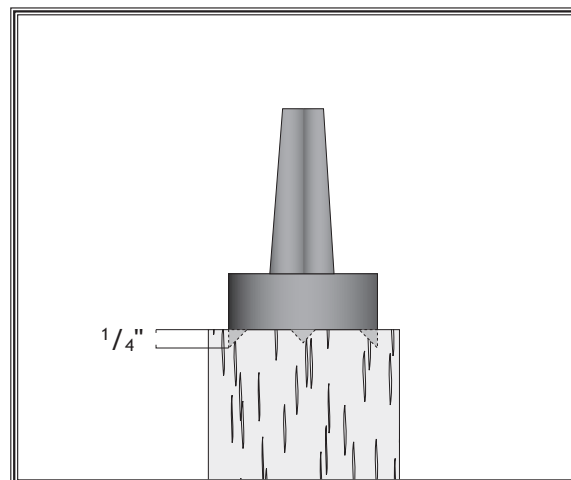

Figure 20. Spur center properly embedded.
5. Drive the spur center into the center of the workpiece with a wood mallet to embed it at least $\frac{1}{4}$ ", as shown in **Figure 20**.